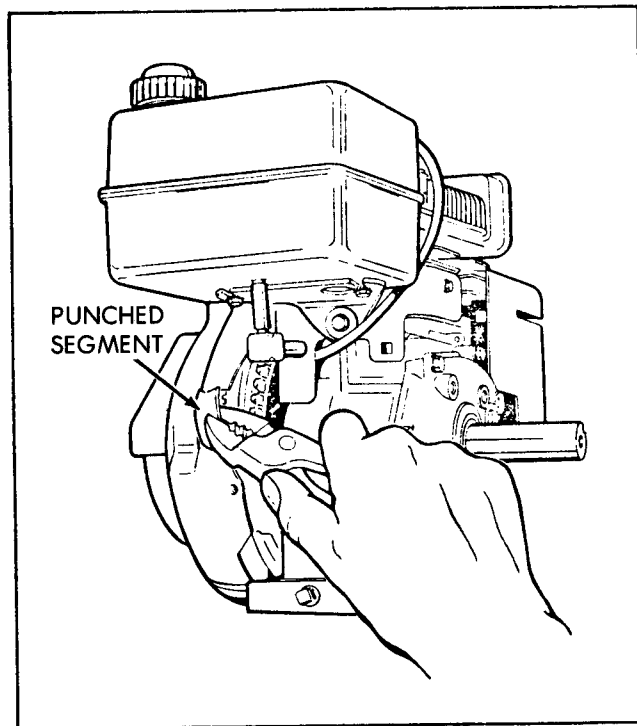

FIGURE 2
2. Remove the partially punched out segment of the blower housing as shown in Figure 2, by gripping the piece with a pliers and gently twisting.